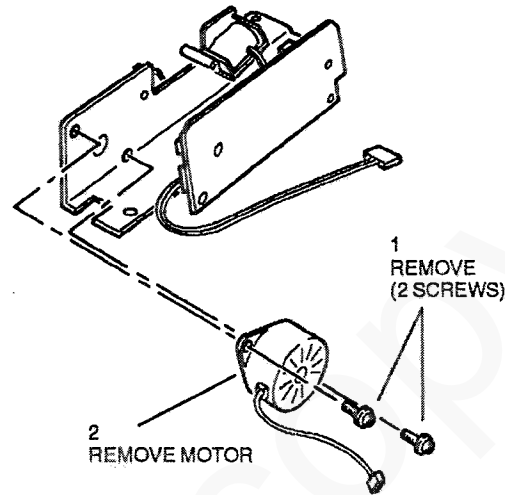

Figure 2. Tray 2 motor removal
4. (Figure 2) Remove the tray 2 motor.